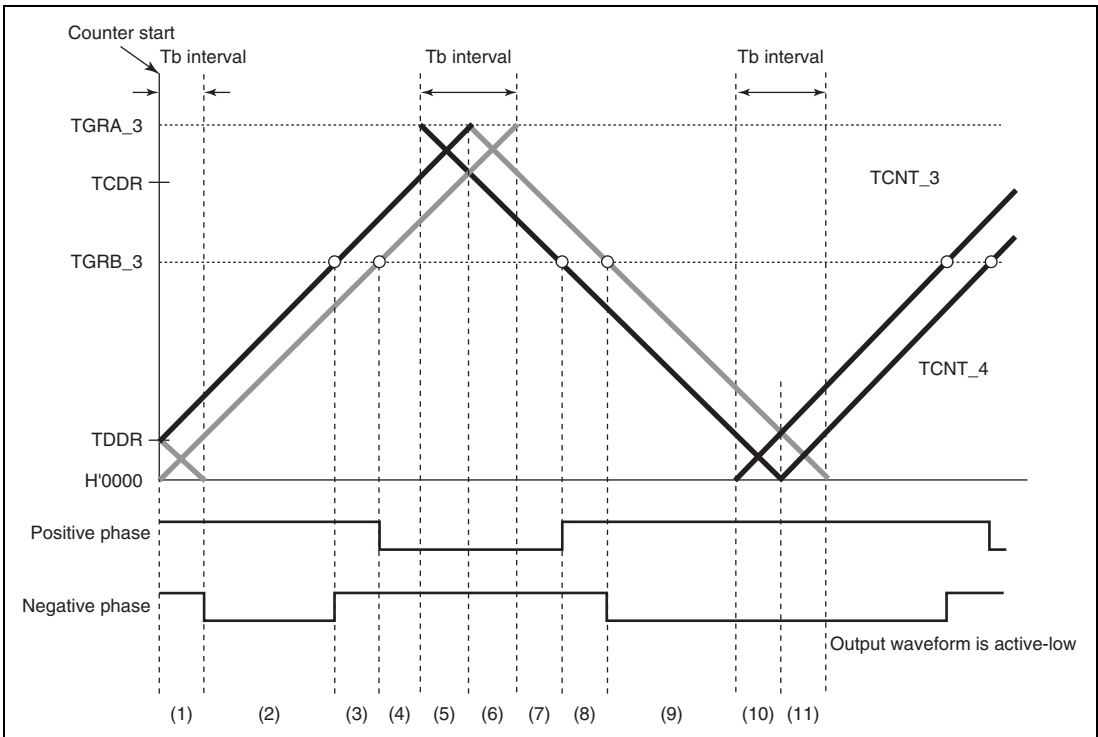
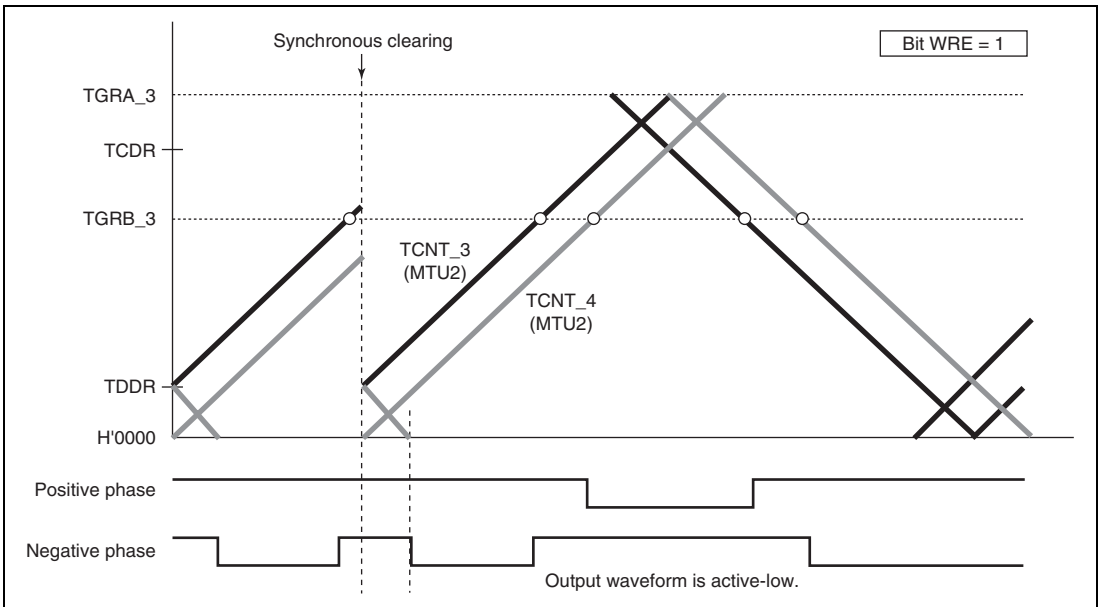
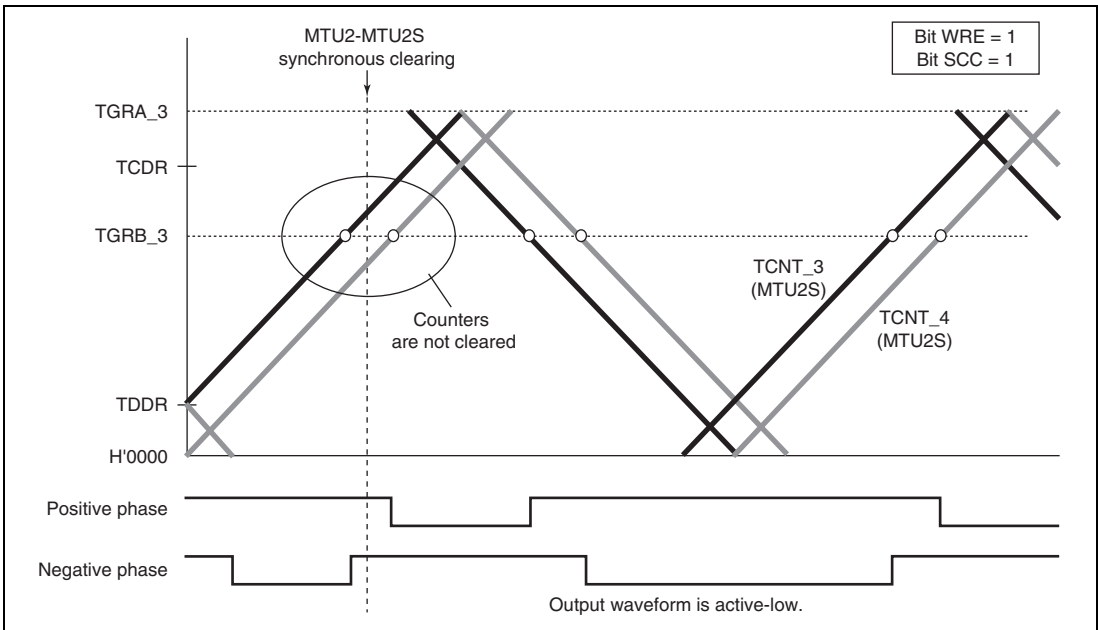

Figure 11.56 Timing for Synchronous Counter Clearing
Figure 11.58 Example of Synchronous Clearing in Dead Time during Up-Counting
Figure 11.64 Example of Synchronous Clearing in Dead Time during Up-Counting (Timing (3) in Figure 11.56; Bit WRE is 1 and Bit SCC is 1 in TWCR of MTU2S)
Initial output suppression is applicable only when synchronous clearing occurs in the T_b interval at the trough as indicated by (10) or (11) in figure 11.56. When synchronous clearing occurs outside that interval, the initial value specified by the OLS bits in TOCR is output. Even in the T_b interval at the trough, if synchronous clearing occurs in the initial value output period (indicated by (1) in figure 11.56) immediately after the counters start operation, initial value output is not suppressed.
Figures 11.58 to 11.61 show examples of output waveform control in which the MTU2 operates in complementary PWM mode and synchronous counter clearing is generated while the WRE bit in TWCR is set to 1. In the examples shown in figures 11.58 to 11.61, synchronous counter clearing occurs at timing (3), (6), (8), and (11) shown in figure 11.56, respectively.
(Timing (3) in Figure 11.56; Bit WRE of TWCR in MTU2 is 1)
(Timing (6) in Figure 11.56; Bit WRE of TWCR in MTU2 is 1)
(Timing (8) in Figure 11.56; Bit WRE of TWCR is 1)
(Timing (11) in Figure 11.56; Bit WRE of TWCR is 1)
Figures 11.64 to 11.67 show examples of operation in which the MTU2S operates in complementary PWM mode and MTU2–MTU2S synchronous counter clearing is suppressed by setting the SCC bit in TWCR in the MTU2S to 1. In the examples shown in figures 11.64 to 11.67, synchronous counter clearing occurs at timing (3), (6), (8), and (11) shown in figure 11.56, respectively.
(Timing (6) in Figure 11.56; Bit WRE is 1 and Bit SCC is 1 in TWCR of MTU2S)
(Timing (11) in Figure 11.56; Bit WRE is 1 and Bit SCC is 1 in TWCR of MTU2S)